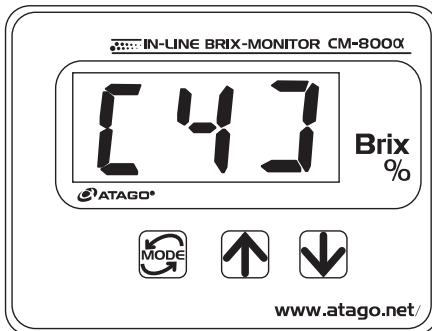

Fig.14-3
- 7 Press the  key again and the display turns to [4] (Fig.14-3).
The upper limit value is now set and the display returns to [4] (Fig.14-3).